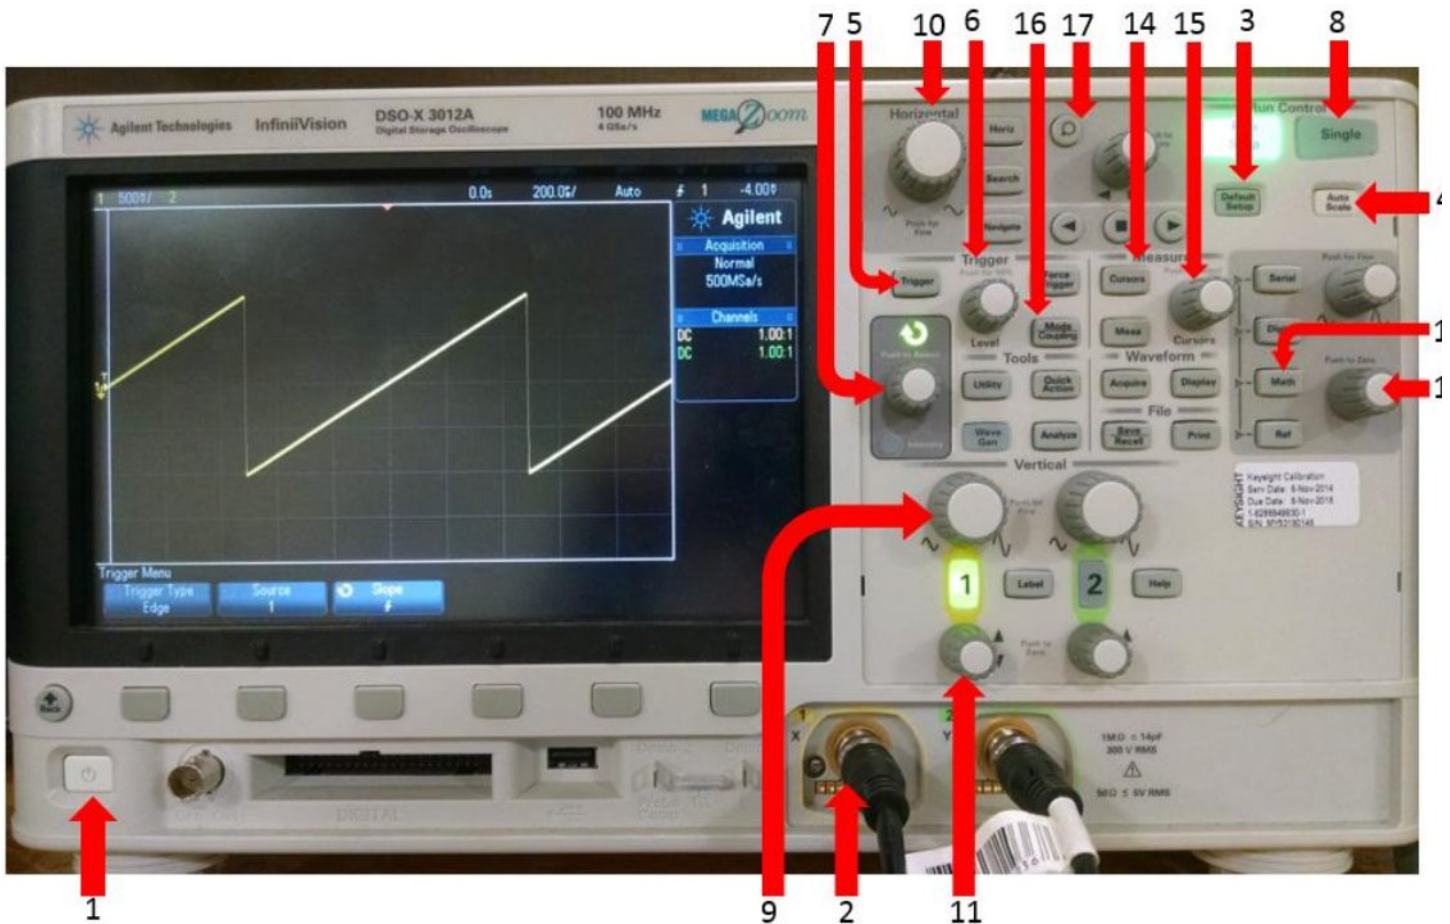

Fig 2. Agilent Oscilloscope with enumerated parts.
- Measure the same resistances with the Agilent DMM by pressing the Ω 2W button (Fig.2- 5)